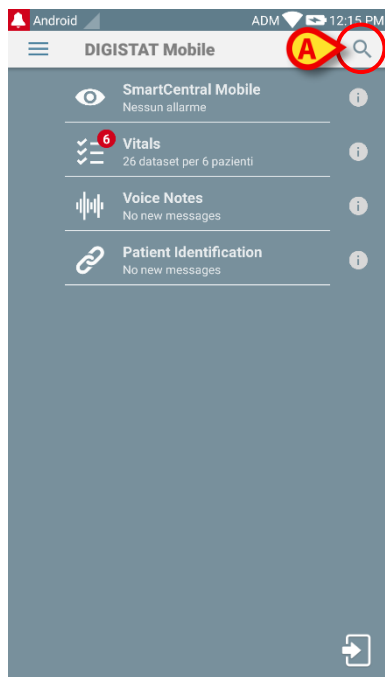
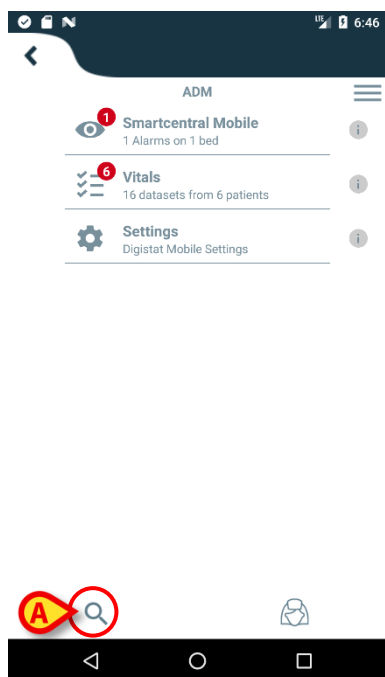
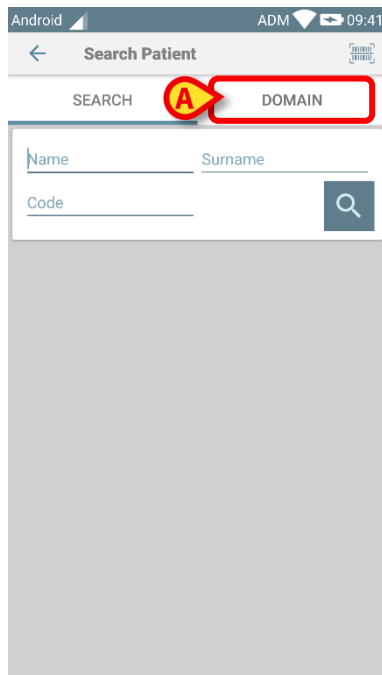

Fig 31
Fig 32
Fig 39
- Touch the icon indicated in Fig 31 **A** for devices without Myco/Unite integration or in Fig 32 **A** for devices with Myco/Unite integration.
- Touch the icon indicated in Fig 31 **A** for devices without Myco/Unite integration or in Fig 32 **A** for devices with Myco/Unite integration. The following screen will appear (Fig 39 **A**):